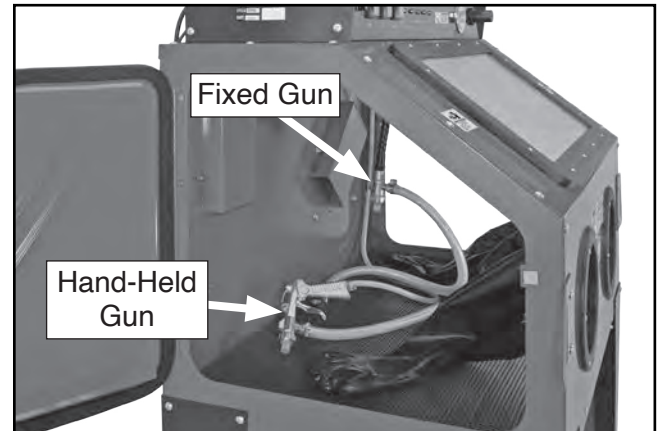

Figure 23. Location of fixed and hand-held guns.
12. Press foot pedal for fixed gun blasting, or pull hand-held blast gun trigger and media will begin spraying from blast tip. Depending on blasting gun selection (see **Figure 23**), move workpiece or blast gun slowly in methodical circular motion.